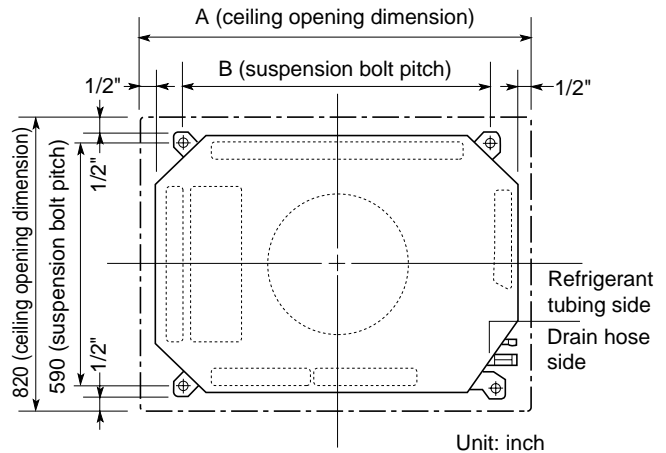

**Fig. 3-1**
- (1) Fix the suspension bolts securely in the ceiling using the method shown in the diagrams (Figs. 3-1 and 3-2), by attaching them to the ceiling support structure, or by any other method that ensures that the unit will be securely and safely suspended.